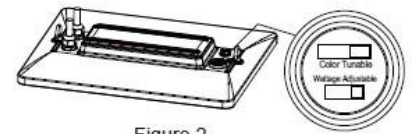

Figure 2
2. Slide the CCT and Wattage switches to the desired settings, then reinstall the plug and tighten it fully. (Figure 2)